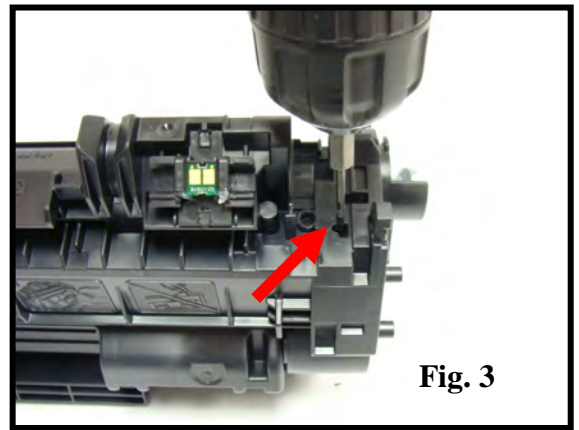

Fig. 3
3. Drill a hole using a 3/32 inch drill bit in the area indicated approximately 1/4 deep to gain access to the cartridge pin (Fig. 3).